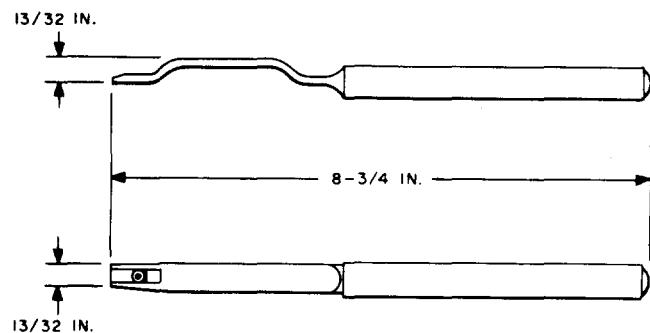

Fig. 2—611A Adjuster Tool
2.02 611A: The 611A tool (Fig. 2) is a relay hinge-bracket adjuster for use on U-, UA-, and Y-type relays having hinge pin-type armature suspension.